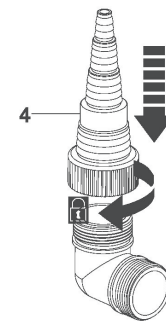

Fig. 1
- Screw the connector (4) clockwise onto the adaptor if it is not already pre-assembled (Fig. 1).